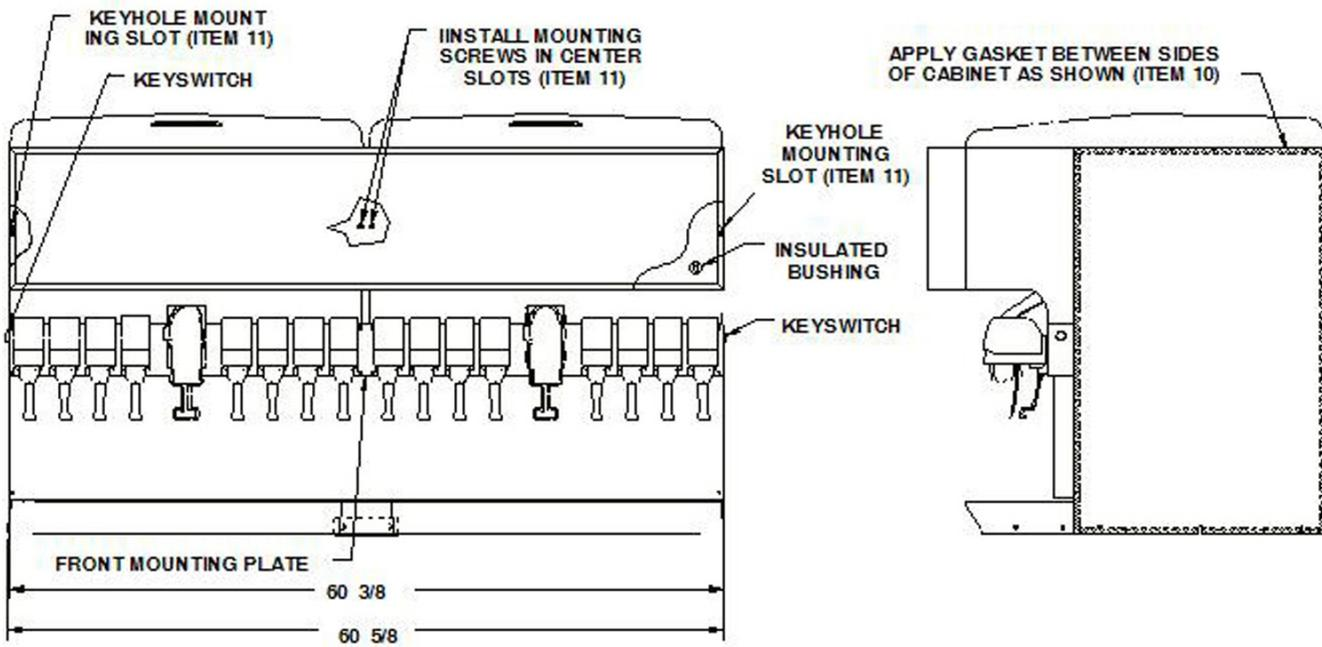

Figure 1.
3. Apply self–adhesive gasket material to the side of one unit as indicated in Figure 1 (for manual–fill units) or Figure 3 (for units with Ice Maker Adapter Kits). Ends of the gasket should fit tight to each other.